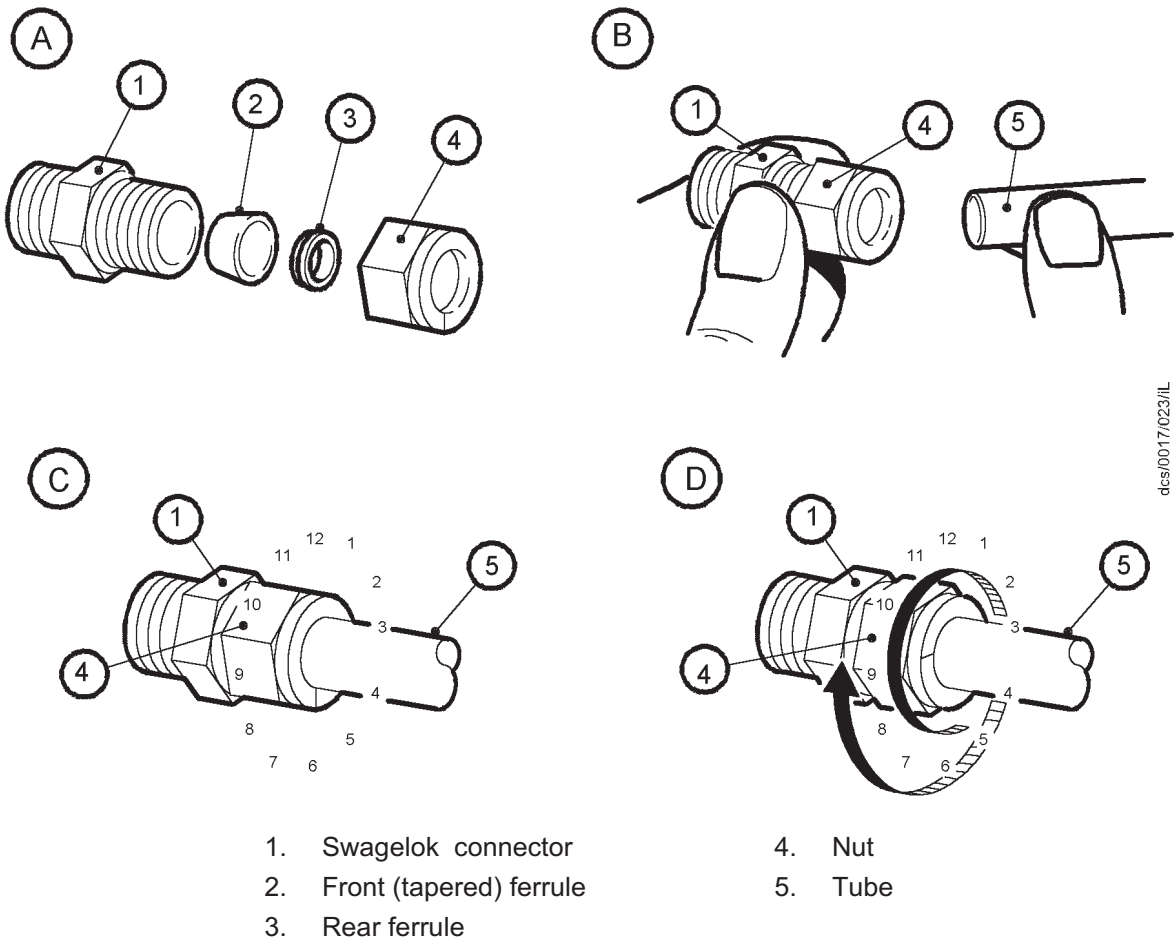

Figure 6-1 - Fit a Swagelok fitting
1. Refer to Figure 6-1 detail B. Insert the tube (5) through the nut (4) and into the Swagelok connector (1). Ensure that the tube rests firmly on the shoulder inside the fitting, and that the nut (4) is finger tight.
2. Tighten the nut (4) until you cannot rotate the tube (5). If you cannot turn the tube because of how it is installed, tighten the nut by $\frac{1}{8}$ th of a turn.
3. Refer to detail C. Mark the nut (4) at the six o'clock position.
4. Refer to detail D. Hold the body of the connector steady, then turn the nut (4) by $1\frac{1}{4}$ turns (to the nine o'clock position) to fully tighten the connection.